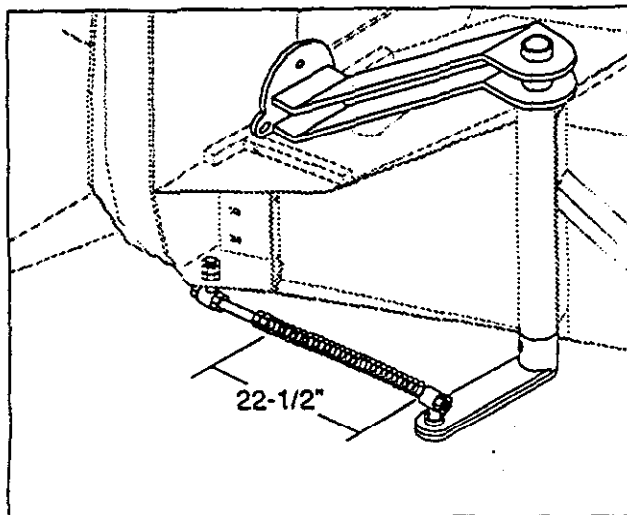

Figure 13
FEED ROLLER SPRING TENSION (Fig. 13)
2. The five springs when compressed should maintain 22-1/2" to keep the proper tension on the feed roller (Fig. 13).